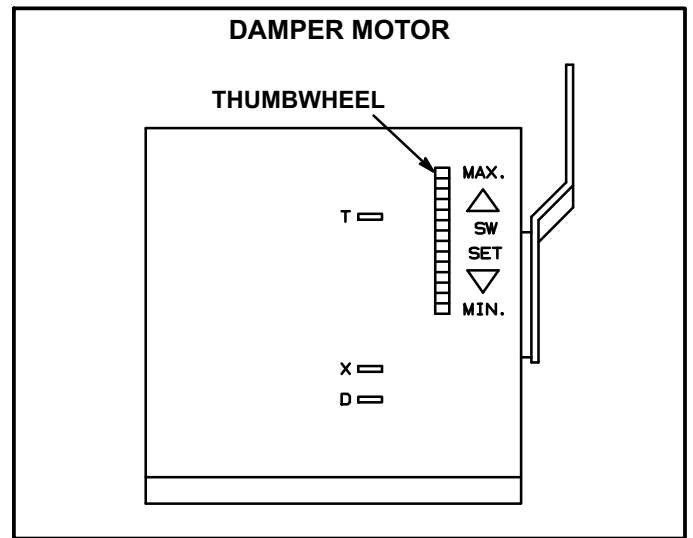

FIGURE 37
- 7- If fresh air percentage is less than desired, adjust thumbwheel higher. If fresh air percentage is more than desired, adjust thumbwheel lower. Repeat steps until calculation reads desired fresh air percentage. See figure 37.
Set damper minimum position in the same manner as economizer minimum position. Adjust motorized damper position using the thumbwheel on the damper motor. See figure 37. Manual damper fresh air intake percentage can be determined in the same manner.